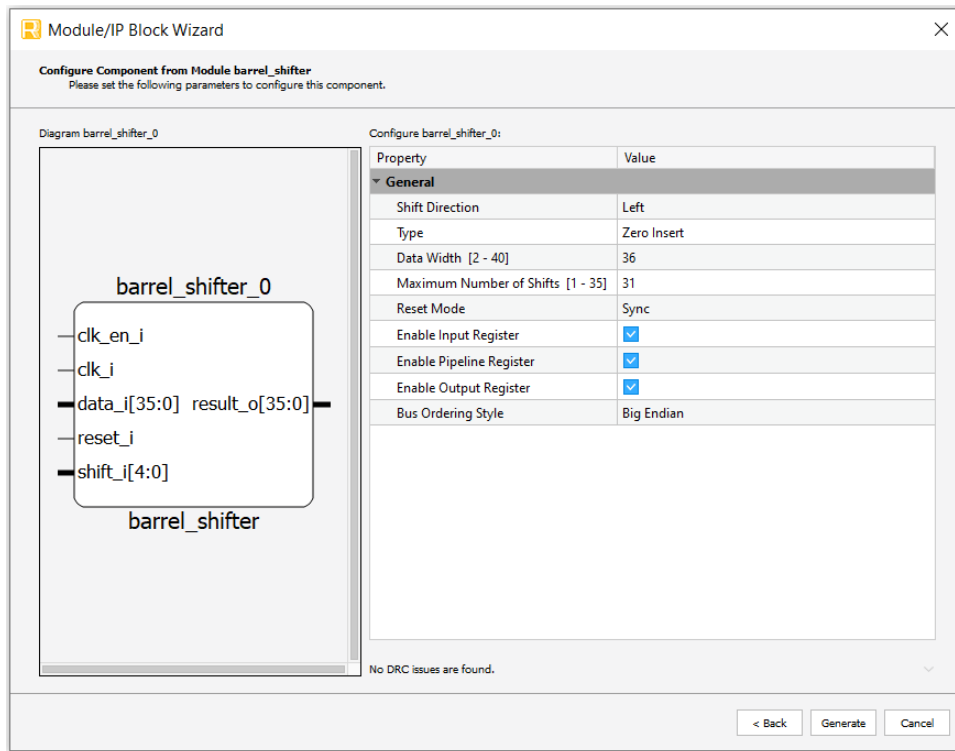

Figure 3.2. Configure User Interface of Barrel Shifter Module
- In the module dialog box of the **Module/IP Block Wizard** window, customize the selected Barrel Shifter Module using drop-down menus and check boxes. For a sample configuration, see Figure 3.2. For configuration options, see the Attribute Summary section.